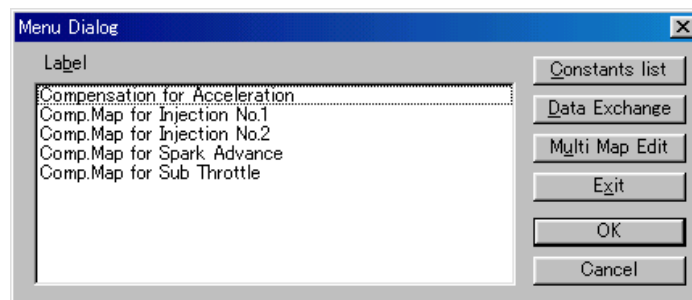

Fig. 14 Menu Dialog
(3) Click the data file (EST file) to be edited in the Open dialog to display the Menu dialog shown in Fig. 14.